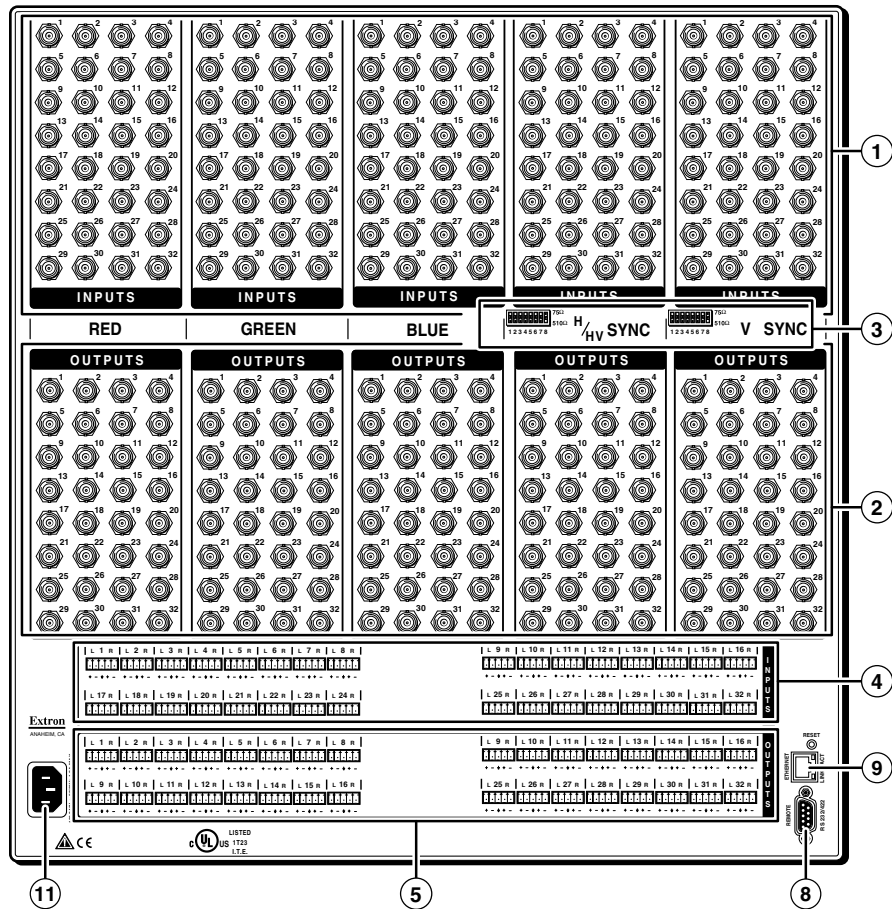

Figure 2-1 — CrossPoint 450 Plus 3232 HVA rear panel
- NOTE** The CrossPoint 450 Plus 3232 and 2424 are housed in a 10U high enclosure (figure 2-1).
Smaller matrix sizes within a form factor have fewer input and/or output connectors. The arrangement of connectors and features in switchers with different form factors is different from what is shown in figure 2-1.